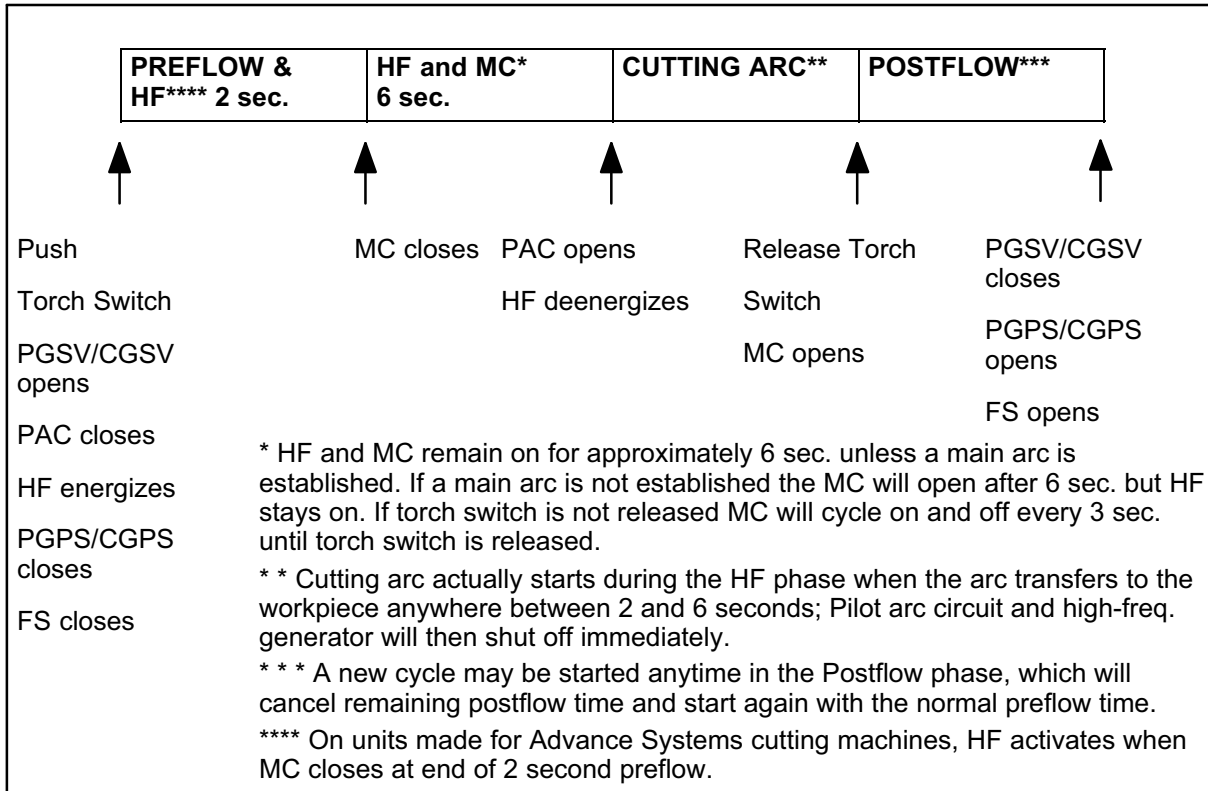

Fig 22. Torch operation sequence diagram
9.2 Sequence of operation (see fig 22)